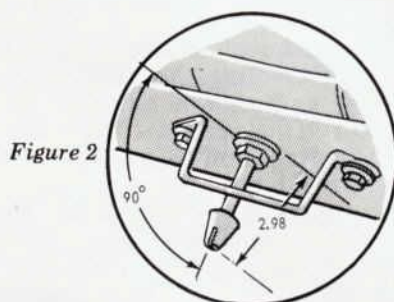

Figure 2
4. Adjust the hood dowel length to 2.98 inches as shown in Figure 2. Inspect the dowel to be sure it is perpendicular in both directions to the hood inner panel surface.